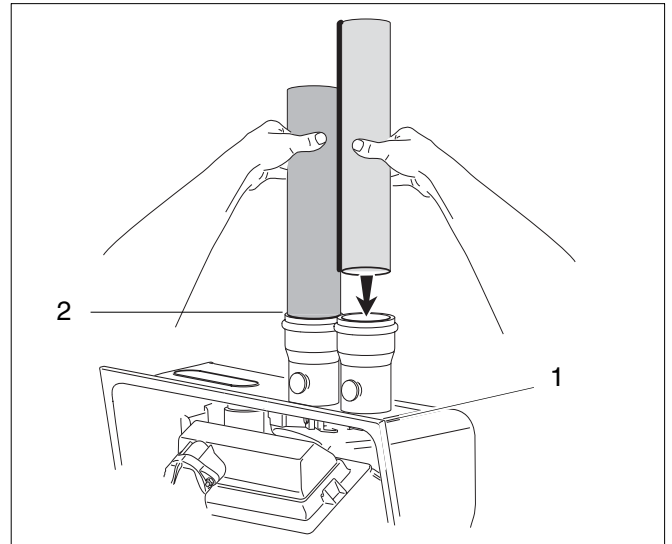

Fig. 14 Vent pipes
All vent pipes must be glued, except for the flue gas adapter (fig. 14, pos. 1) which is screwed into place and the first connection to the flue gas adapter (fig. 14, pos. 2). Installed you can slide the pipe onto the adapter, properly supported and the exhaust pipe must be pitched a minimum of a ¼ inch per foot back to the appliance. This allows the condensate to drain away.